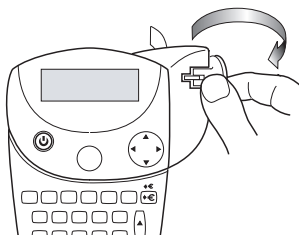

Figure 6
3. Cut the label using your thumb to lift the cutting lever and pull it towards the back of the printer. See Figure 6.